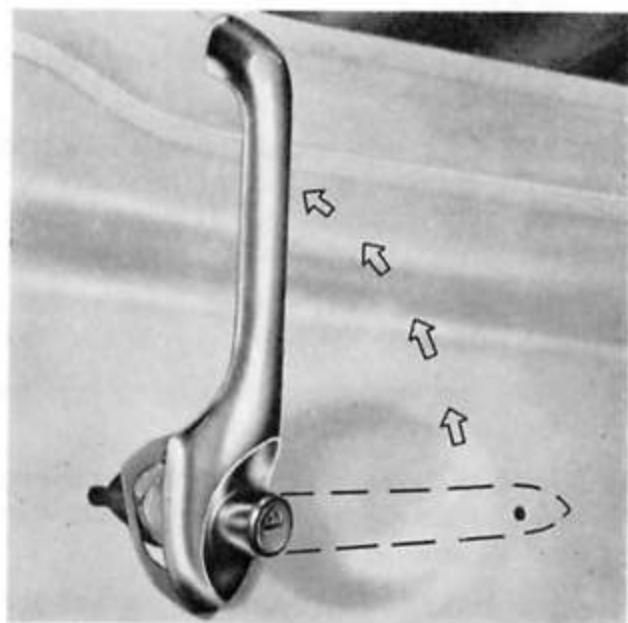

Fig. 1
6. Remove the door handle by turning the front end until the handle is vertical (see Fig. 1). Twist the handle towards the front of the vehicle and withdraw the handle and wire control rods (see Fig. 2).